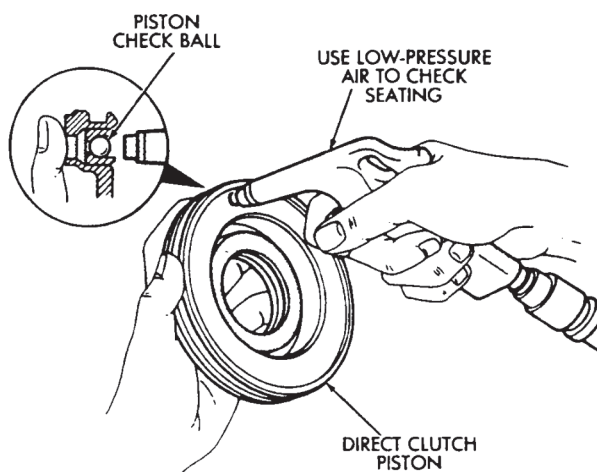

Fig. 10 Testing Piston Check Ball Seating
(15) Check clutch piston check ball (Fig. 10). Shake piston to see if ball moves freely. Then check ball seating by applying low pressure compressed air to ball inlet as shown. Air should not leak past check ball.
(16) Measure inside diameter of clutch drum bushing. Inside diameter should be no more than 53.97 mm (2.1248 in). Replace drum if bushing inside diameter is greater than specified.